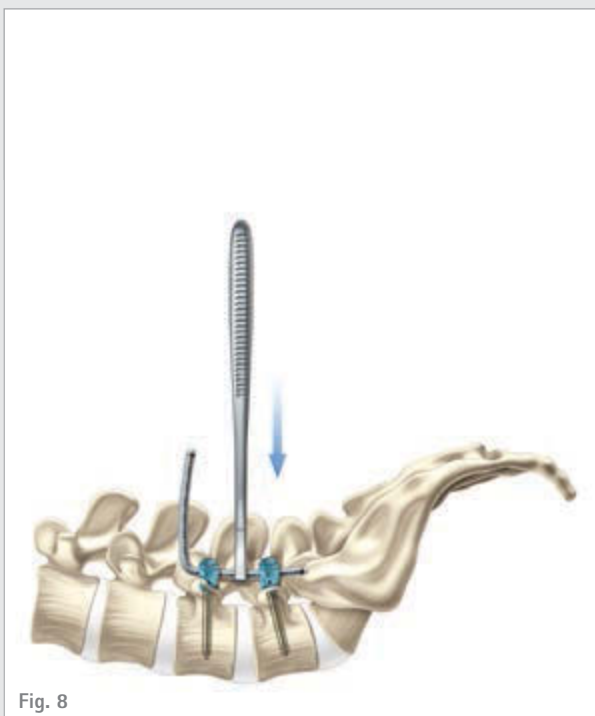

Fig. 8
- Optional use of flexible Rod Trials (FW185R) as a guide for rod bending and measuring correct rod length. (Fig. 8)